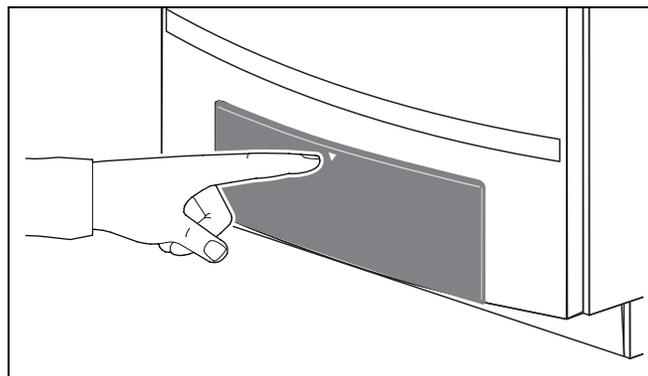
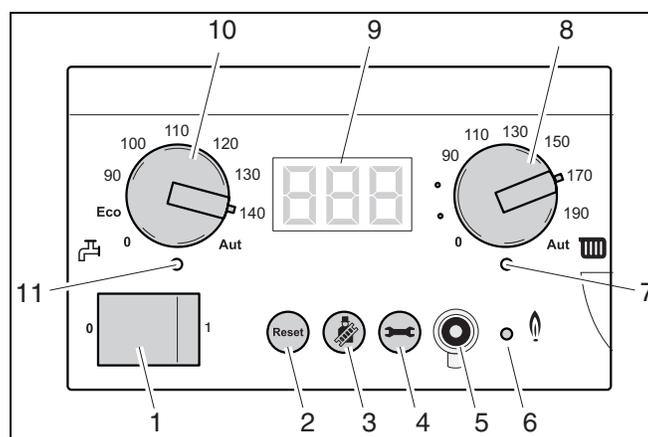

Fig. 43 Opening the control panel
Fig. 44 BC10 basic controller
- Push on the control panel (fig. 43) to get access to the BC10 basic controller (fig. 44).
You can navigate through the menu structure of the boiler on the BC10 using the "Reset" button, the "Chimney sweep" button, the "Service button" (fig. 44, pos. 2, 3 and 4) and the display (fig. 44, pos. 9).